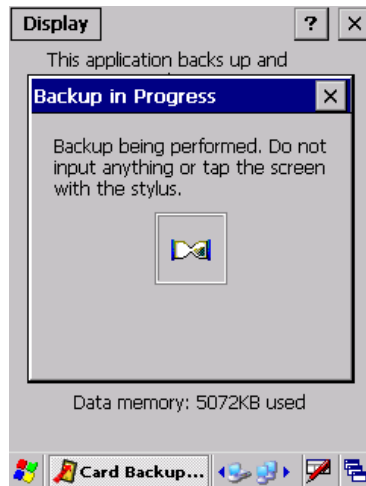

Fig. 3.101
4. As soon as **Yes** button is pressed, the progress window appears (see Fig. 3.101) and the backup will be executed.